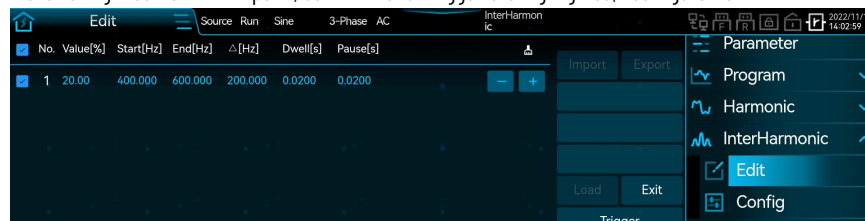

Figure 110 Interharmonic Parameter Setting Example Figure 2
- 3) Click 'Load' in the lower right corner. At this point, both 'Exit' and 'Trigger' are highlighted; see Figure 110.